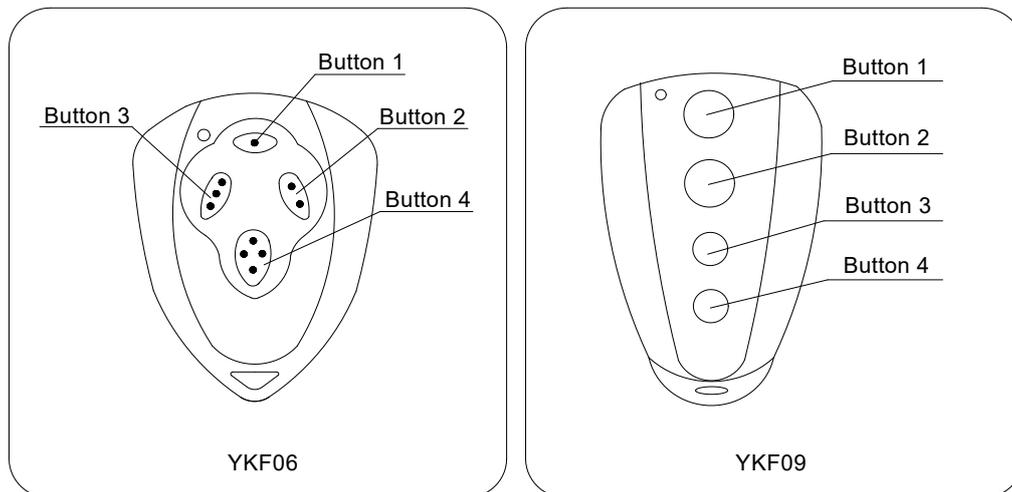

Fig.19
- The remote control works in three-channel mode, (1-open, 2-close, 3-stop, 4-not used) See Fig.19.